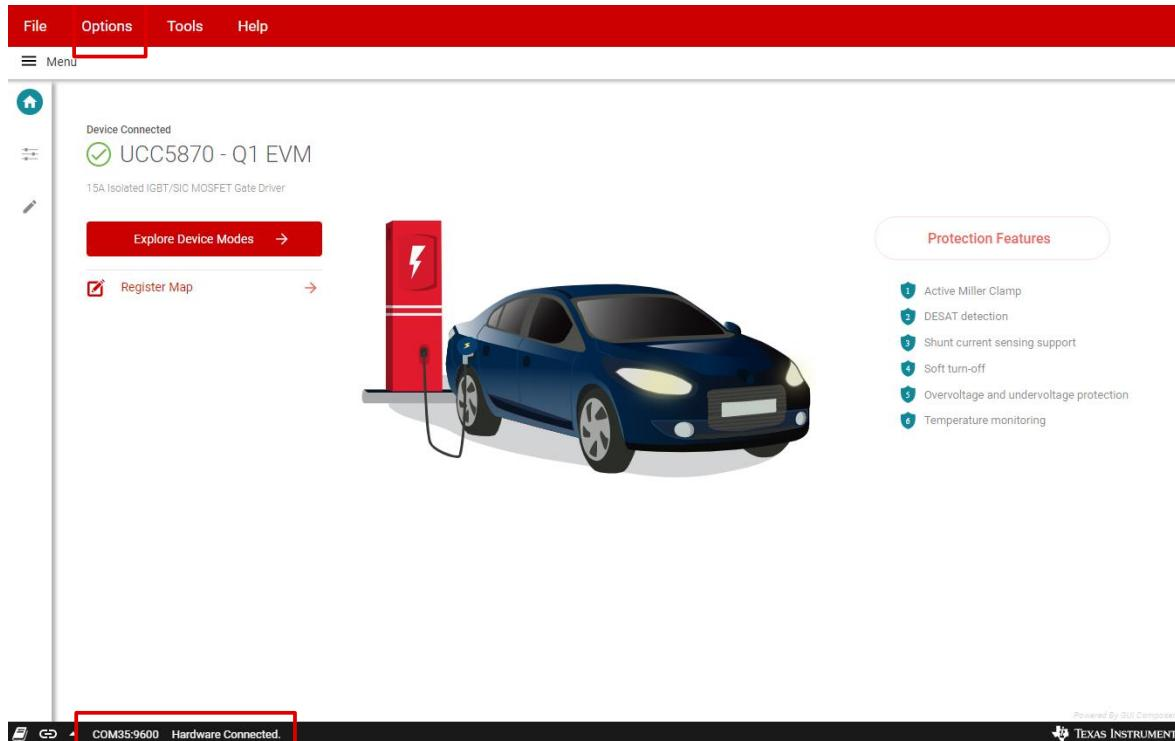

Figure 6. GUI First Page
3. Open the GUI, The home page should look like as Figure 6, The bottom pane should show ‘Hardware Connected’ after few seconds. In case it is not connected, Click ‘Options’ -> ‘Serial port’ and choose the appropriate serial port from the list of available ports.